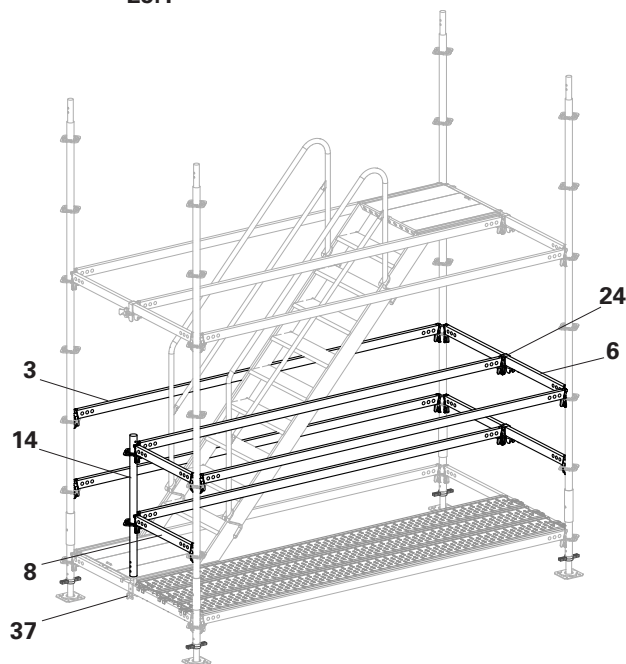

Fig. A3.06
1. Attach the Horizontal Ledgers UH-2 300 (3) and UH-2 150 (6).
2. Insert Top Standard UVH-2 100 (14) into the UH Spigot-2 (37).
3. Attach the internal Horizontal Ledger UH-2 (8) with Ledger Bracket UHA Half (24) to the Rosett of the Top Standard UVH-2 100 (14).
4. Attach Horizontal Ledgers UH-2 75 (8) between the Vertical Standard and Top Standard UVH-2 100 (14). (Fig. A3.06)